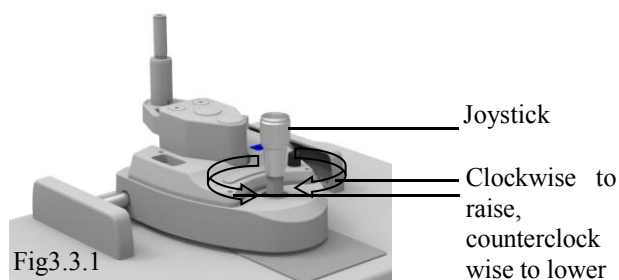

Fig3.3.1
- ② The use of the fixation target is to fix the patient's vision, so that the patient's non-examined eye is gazing at the fixation target. When changing the fixation position, turn the fixation rod up and down or left and right to obtain the desired fixation target position.
- ① Roughly Adjustment in the horizontal direction: Keep the joystick in the upright position (see Figure 3.3.1), move the base back and forth to move the microscope in a horizontal direction to roughly align the target.
- ② Adjustment in the vertical direction: Rotate the joystick to adjust the height of the microscope to align it with the target. Rotate clockwise to raise the microscope; counterclockwise to lower the microscope (see Figure 3.3.1).
- ③ Slightly adjustment in the horizontal direction: Tilt the joystick tilt back and forth to make the microscope move slightly in the horizontal
direction. Observe through the eyepiece to accurately align the target to obtain a clear observation (see Figure 3.3.1).